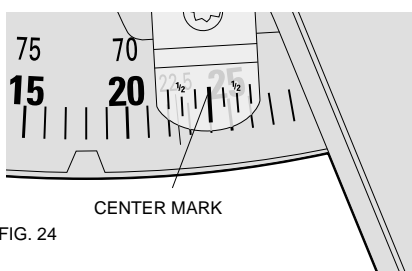

FIG. 24
2. Set the miter angle to the nearest whole degree desired by aligning the center mark in the vernier scale, shown in Figure 24, with the whole degree number etched in the miter scale. Examine Figure 24 closely; the setting shown is 24 degrees right miter.